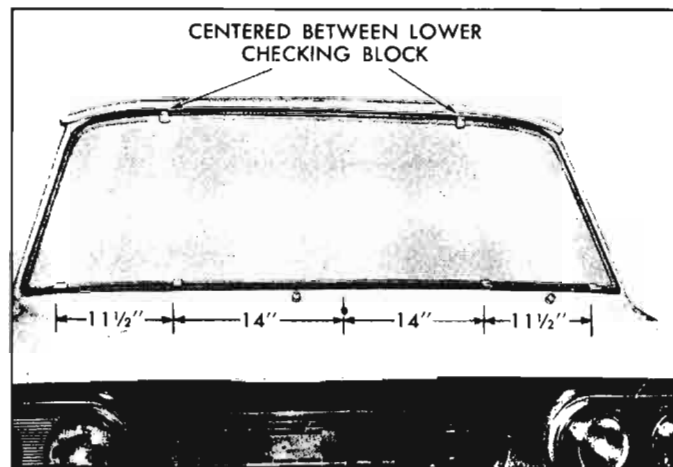

Fig. 10-19a—Windshield Body Opening Check
4. Check windshield glass to opening, by supporting glass with six spacers J-8372 (fig. 10-19a).